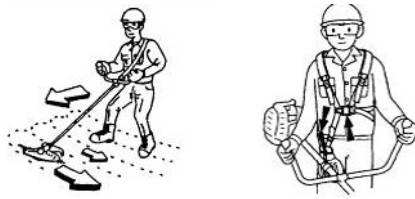

Fig.18
- Mow from right to left (Fig. 18)